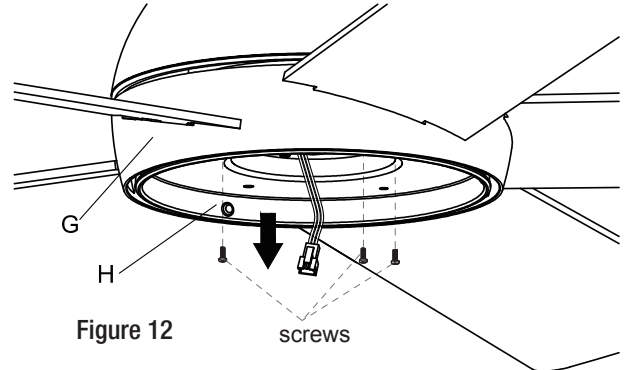

Figure 12
- Remove 3pcs pre-installed screws from the inside of the light housing pan (H). Figure 12.